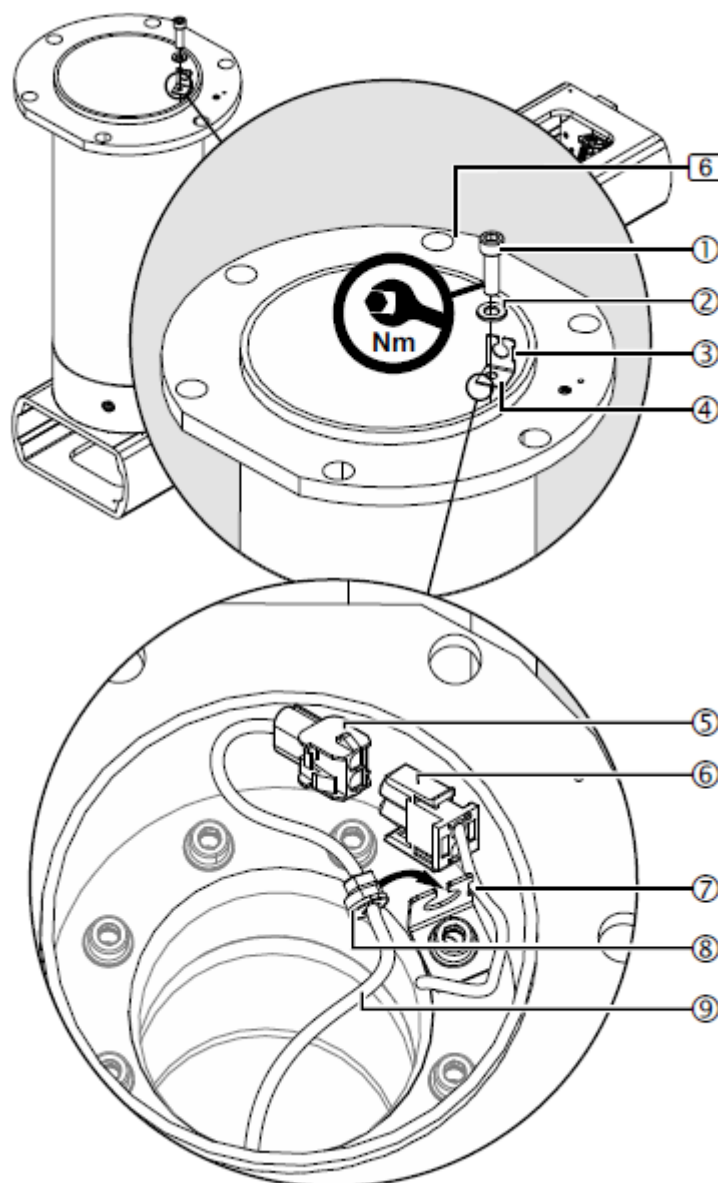
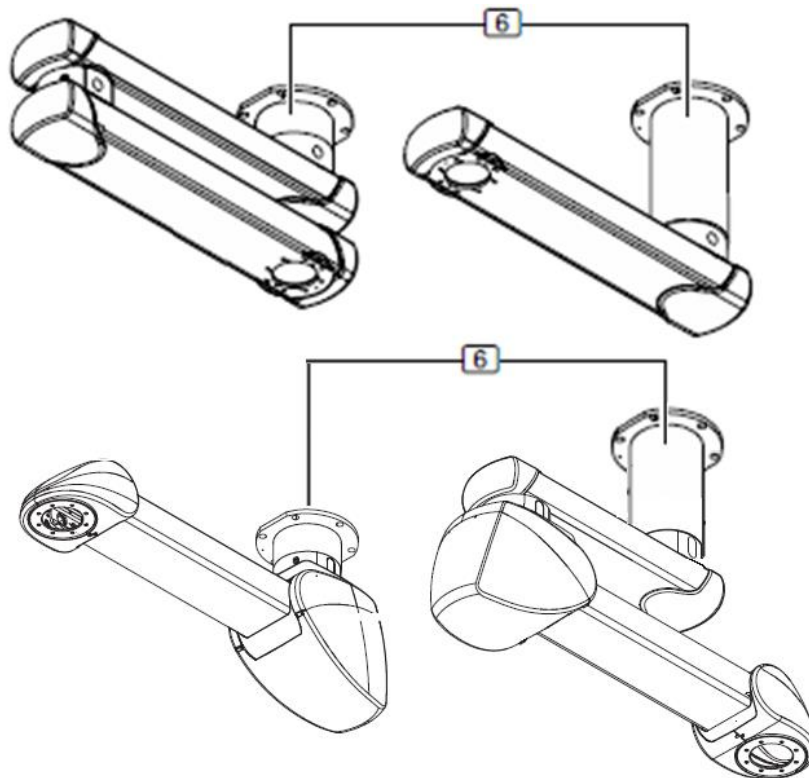
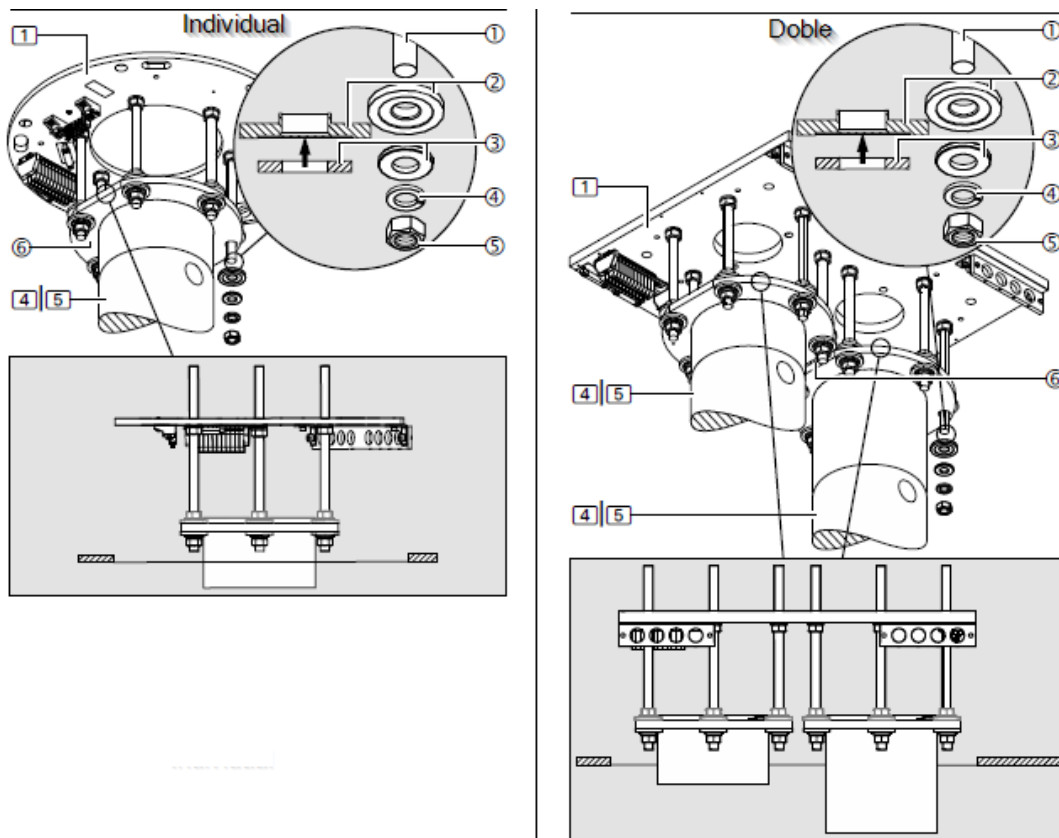

Fig. 27 Mounting the strain relief mechanism
Fig. 29 Double-arm COLUMN AIR and single-arm COLUMN AIR
Fig. 30 Assembly of the roof tube flange on the threaded bolts
Figure 27 shows a simplified representation with only the drive arm 4 and the extension arm with drive arm 5 without pre-assembled cables.
In this section we already have the system arm(s) attached to the ceiling tube (6) as shown in figure 29 for the single arm COLUMN AIR (picture top right in figure 29) and the double arm COLUMN AIR (picture top left in figure 29). On the single-arm unit, it has been attached to an extension ceiling tube so that the two suspended systems do not collide when rotating in a tandem assembly. The two pictures below correspond to COLUMN MOTOR.
Figure 30 shows a simplified representation of the roof tube flange ⑥ for mounting on the threaded bolts. Other components such as extension arm, cables, etc. are not shown.
When mounting double systems, it should be noted that the flanges of the roof pipes (6) have a chamfered surface to ensure that they can be mounted at the same height, mount them so that the chamfered surfaces are aligned with each other, as shown in figure 29.
- Insert the roof tube flange (6) into the 6 M16 threaded bolts (1) of the interface plate (1).
- Remove the previously applied adhesive or elastic tape from the threaded bolts (1).
- For each M16 threaded bolt (1), fit 1 plastic insulating disc (2) (as shown in Figure 27) so that the flat washer with an outer diameter of 34 mm (3) (see arrow in the detailed illustration in Figure 30) is seated on the plastic insulating disc (2).
- For each M16 threaded bolt (1), fit 1 flat washer with an external diameter of 34 mm (3), 1 spring disc (4) and 1 M16 hexagon nut (5).
- Insert the fixing plate 8 x M10 ③ from the front side ① into the extension arm (4), (5) and fit it.
- Position the drop tube under the extension arm (4) / (5) so that the end stop ④ on the drop tube points away from the side of the extension arm and the fixing holes are aligned.
- In order to be able to turn the service head counterclockwise, the drop tube must be mounted with the end stop ④ on the right side, as shown in figure 30. It will be mounted on the left side if the service head is to be able to turn clockwise.
- Fix the drop tube through the 8 x M10 fixing plate ③ and screw it to the extension arm (4), (5) with 8 countersunk Allen screws ②.